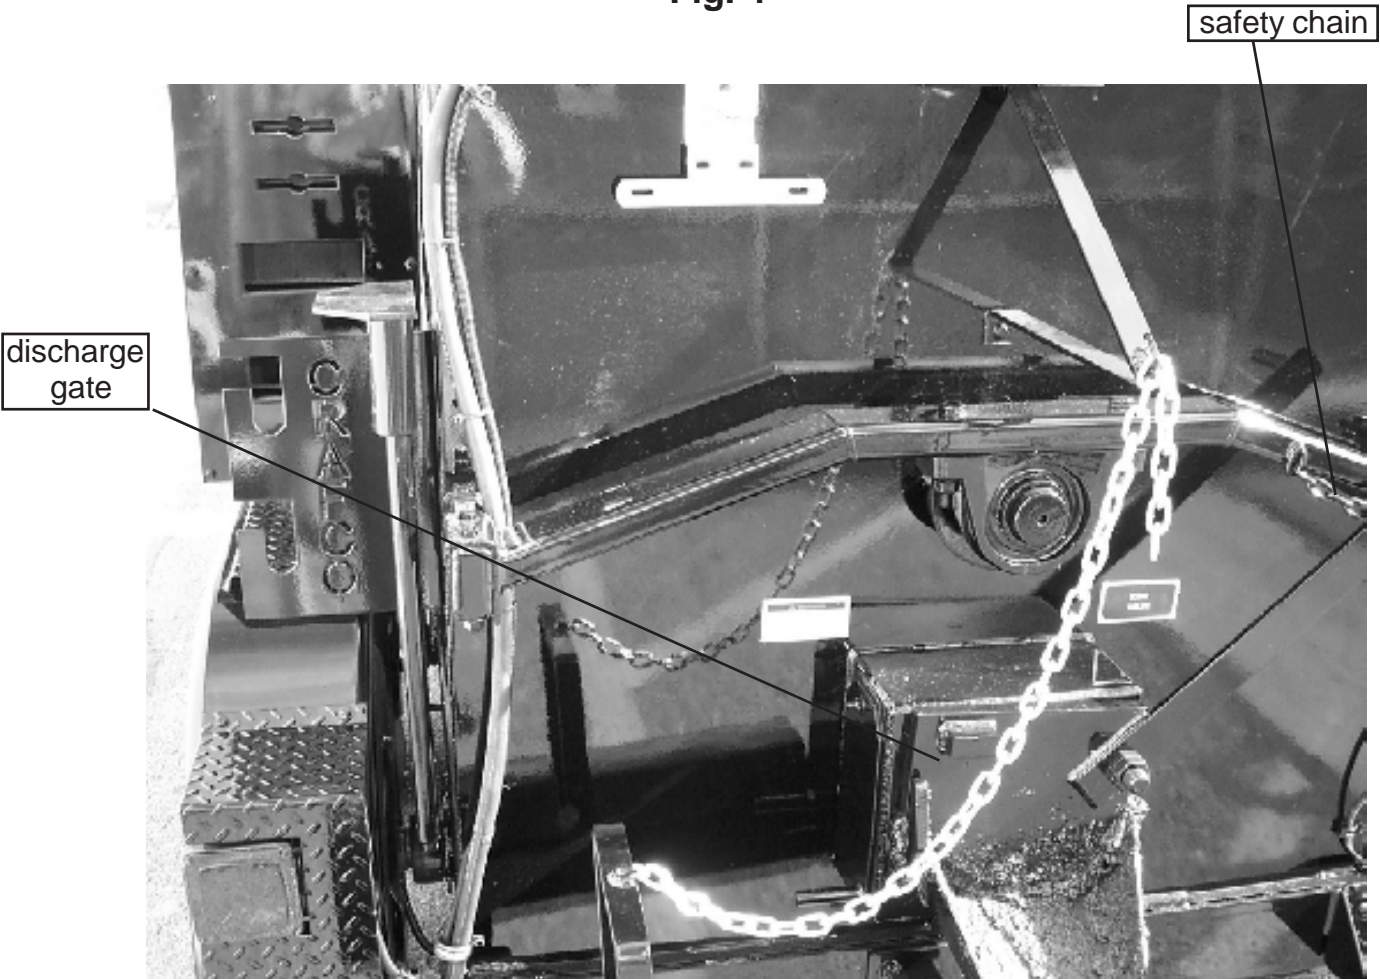

Fig. 2
5. The rear discharge gate should be in the closed position and the burner switch "OFF." (see Fig. 2)
CAUTION: Be sure discharge gate is completely closed after each draw off. Lock handle with safety chain if machine is transported (see Fig. 2).